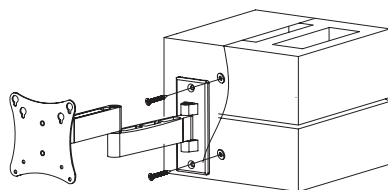
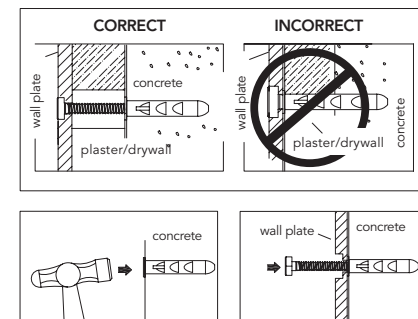

fig. 2.2
fig. 3
Place mount on wall, using level to ensure wall arm assembly will be straight. For concrete block installations mount in a solid area, at least 25mm (1") from the sides of the block. Mark holes, then drill two 8mm (1/3") diameter holes with minimum depth of 65mm (2.5"). Insert wall anchors (J) in holes flush with wall as shown in fig 3. Place wall arm assembly (A) over wall anchors (J) and secure with wood screws (I) as shown in fig 2.2. Tighten fasteners, making sure the wall arm (A) is level.